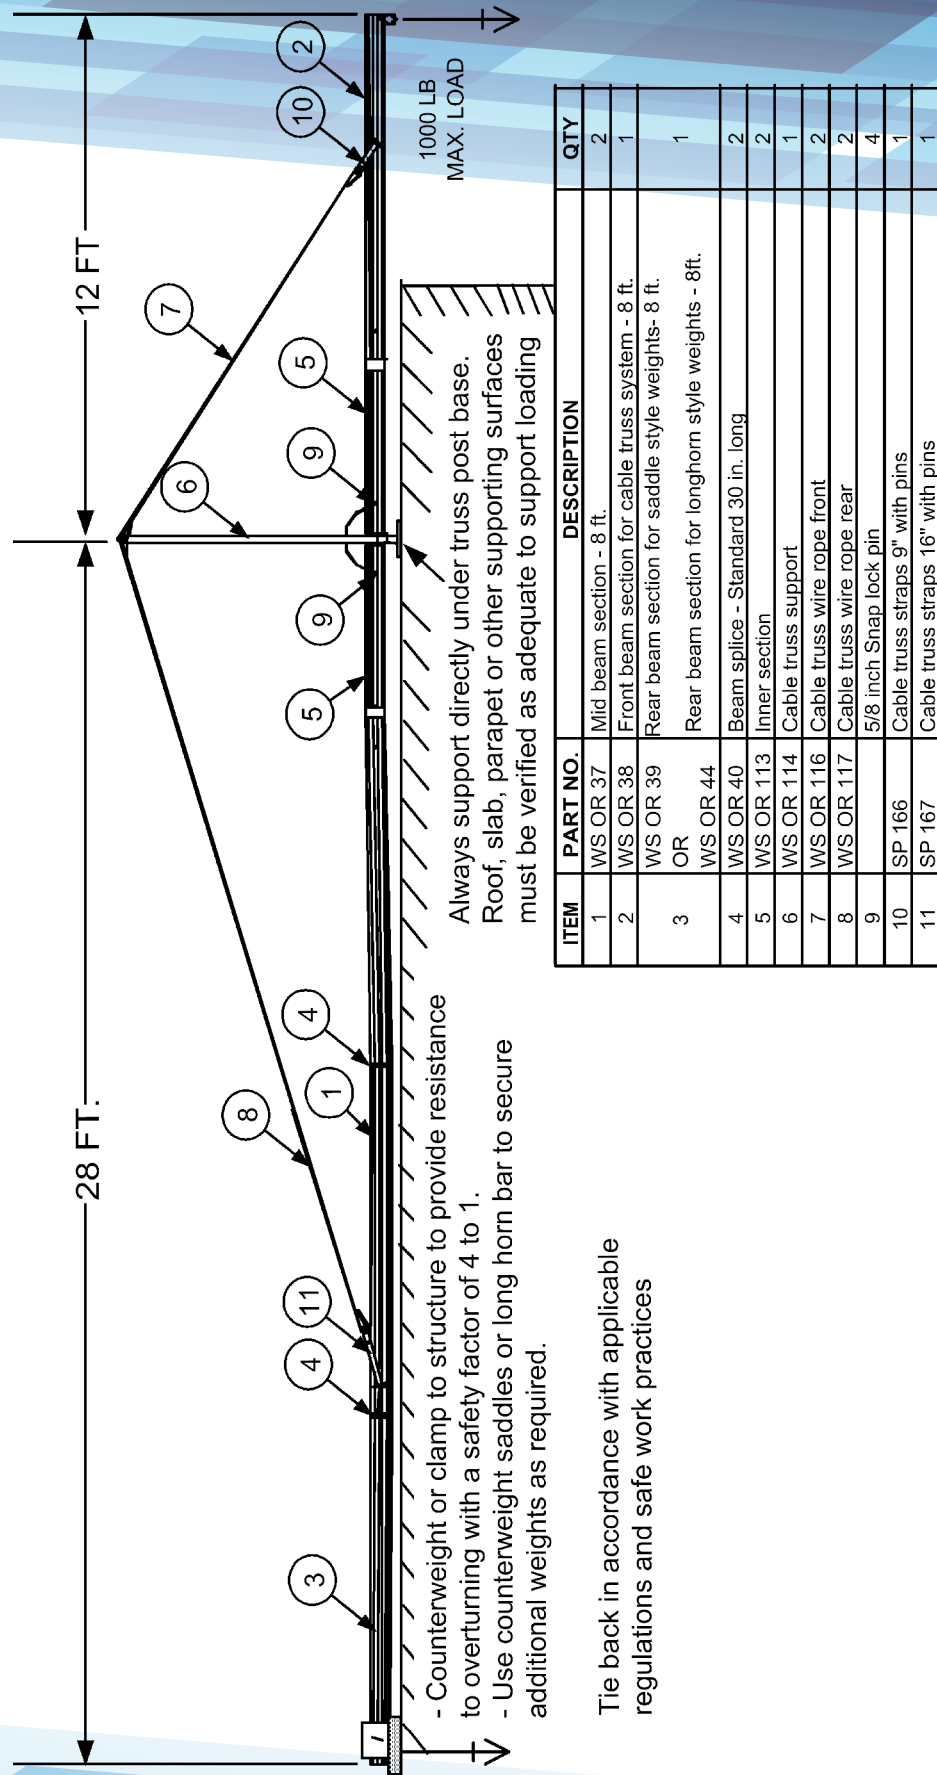

Figure 16. 12 FT. Reach Cable Truss System
1. Installation of the 12' reach Cable Truss System requires a clear space of at least 28 feet behind the parapet. The Cable Truss System is assembled in the sequence: Rear Beam, Beam Splice, Mid Beam, Beam Splice, second Mid Beam, Inner Section, Cable Truss Support, Inner Section and Front Beam (see Figure 16).
5. Pin the Cable Truss Strap (SP 167) to the Mid Beam using the Retaining Pin(SP 169) replacing the normal splice pin (see Figure 16).